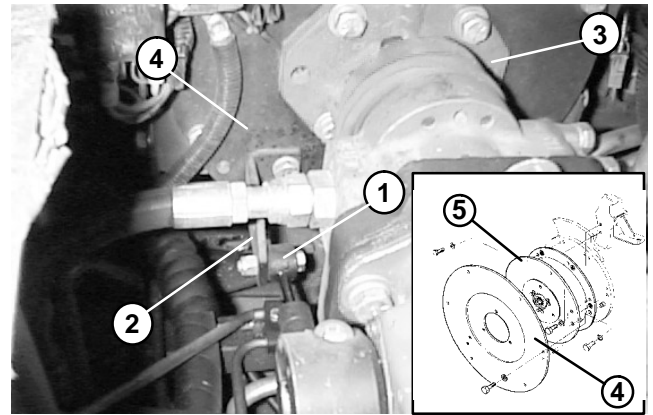

Figure 25
12. Separate hydraulic pump assembly from the engine (Fig. 25).
5. Connect hydraulic pump assembly to the engine (Fig. 25).